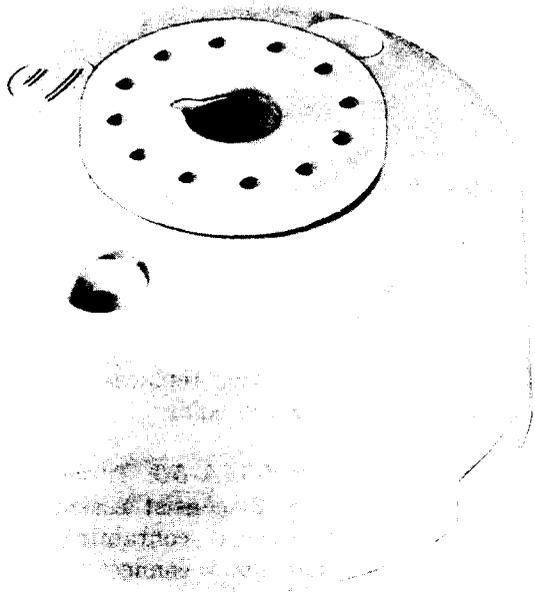

Fig. 2—551A-49 or 551A-50 Jack
2.02 **551A-49 and 551A-50:** These nonflush-type jacks (Fig. 2) consist essentially of a block of insulating material, containing 12 spring contacts equipped with quick connect terminals. A protective plastic cap fits over the front of the jack, permitting the entry of plug prongs. The associated 504A-type plug can be inserted in one position only. These 551A-type jacks are designed for surface mounting by means of two holes spaced on 1.870 inch centers. The jacks mount by means of two No. 8 wood screws, 1.9 inches long, which are furnished loose. These jacks are used with portable telephone sets having from two to twelve conductor mounting cords.